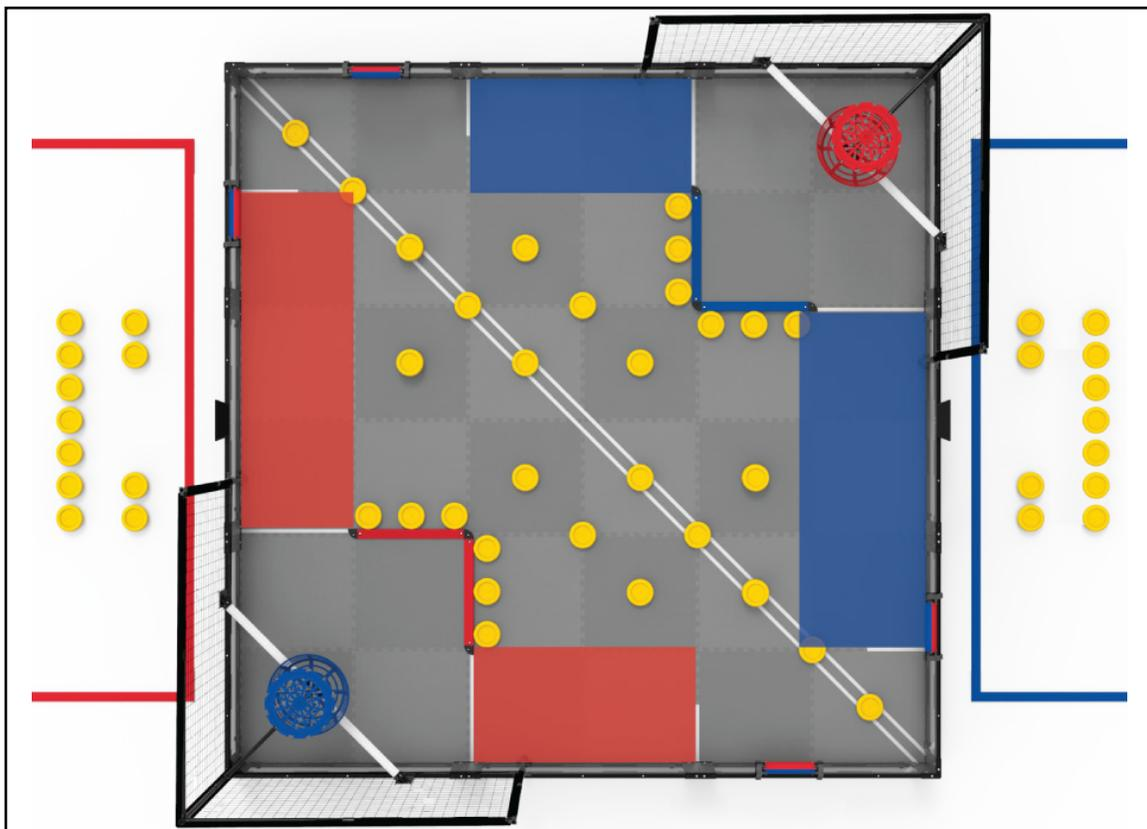

Figure 19: Overhead view of the field, highlighting legal starting tiles for each Alliance
- a. Contacting at least one (1) of the gray foam field tiles adjacent to the field perimeter that are between a pair of *Starting Lines* on their *Alliance's* side of the *Autonomous Line*. See Figure 19.
- f. Contacting no more than two (2) *Preloads*. See rule <SG2>.